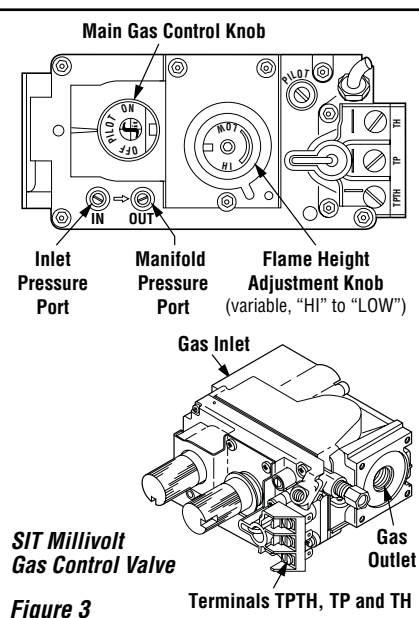

Figure 3
Test gauge connections are provided on the front of the gas control valve, identified **IN** for the inlet and **OUT** for the manifold side (see **Figures 3 and 4**).
- For **MILLIVOLT** appliances, see **Figure 3** for a detailed illustration of the **SIT Millivolt Gas Control Valve**.
- For **MILLIVOLT** appliances, see **Figure 3**.